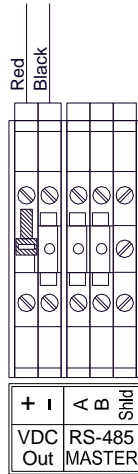
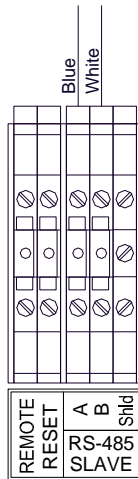

Figure 2 Master Port Terminals
Figure 3 Slave Port Terminals
2. Connect the other end of the cable to the terminals inside the X40 or MCX-32. The red and black wires connect to the Master Port “+” and “-” terminals (Figure 2). The blue and white wires connect to the Slave Port “A” and “B” terminals (Figure 3).